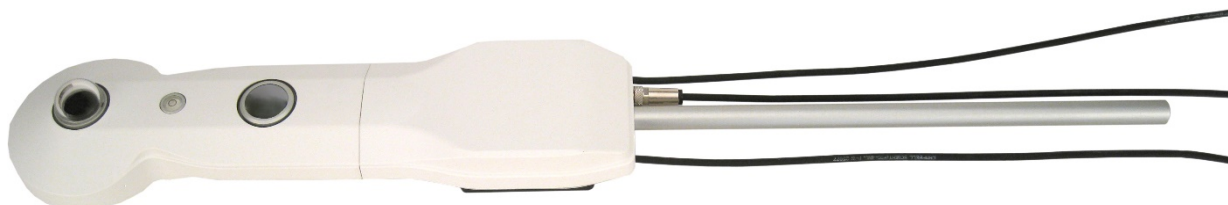

FIGURE D-7. Connecting the CNF4 power control cable and the mounting rod
5. Connect the heater/ventilator power control cable and the mounting rod to the CNF4, as shown in FIGURE D-7.